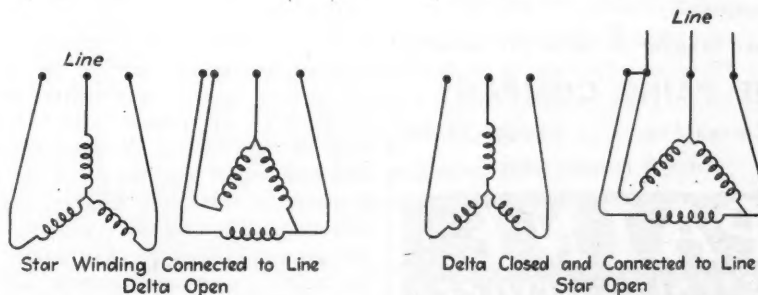

FIG. 5—Separate winding motor connections for multiple speed operation.
In the case of the 2-phase motor the above simple statement is complete, since there is only one type of winding, whether it be for 2-phase 3-wire or 2-phase 4-wire. But 3-phase motors can be wound star (Y) or delta (Δ). The Y winding is the most common, but if any winding is delta, provision must be made for opening one corner of it when not in use, otherwise a circulating current would flow in the delta winding when any other winding became energized. For this purpose the motor manufacturer brings four leads out from the delta winding and an extra set of contacts is required on the motor starter to close the delta, illustrated in Fig 5.